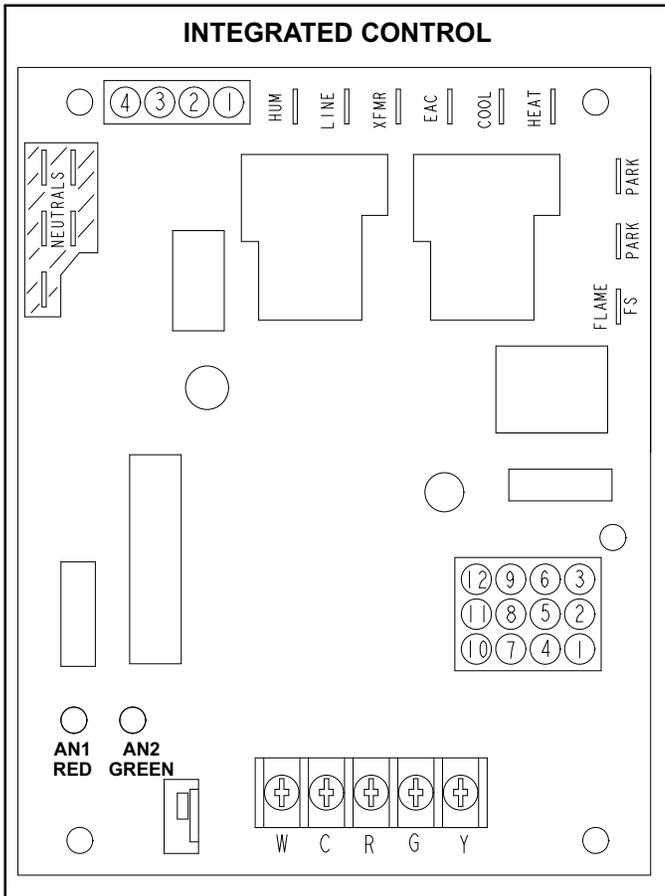
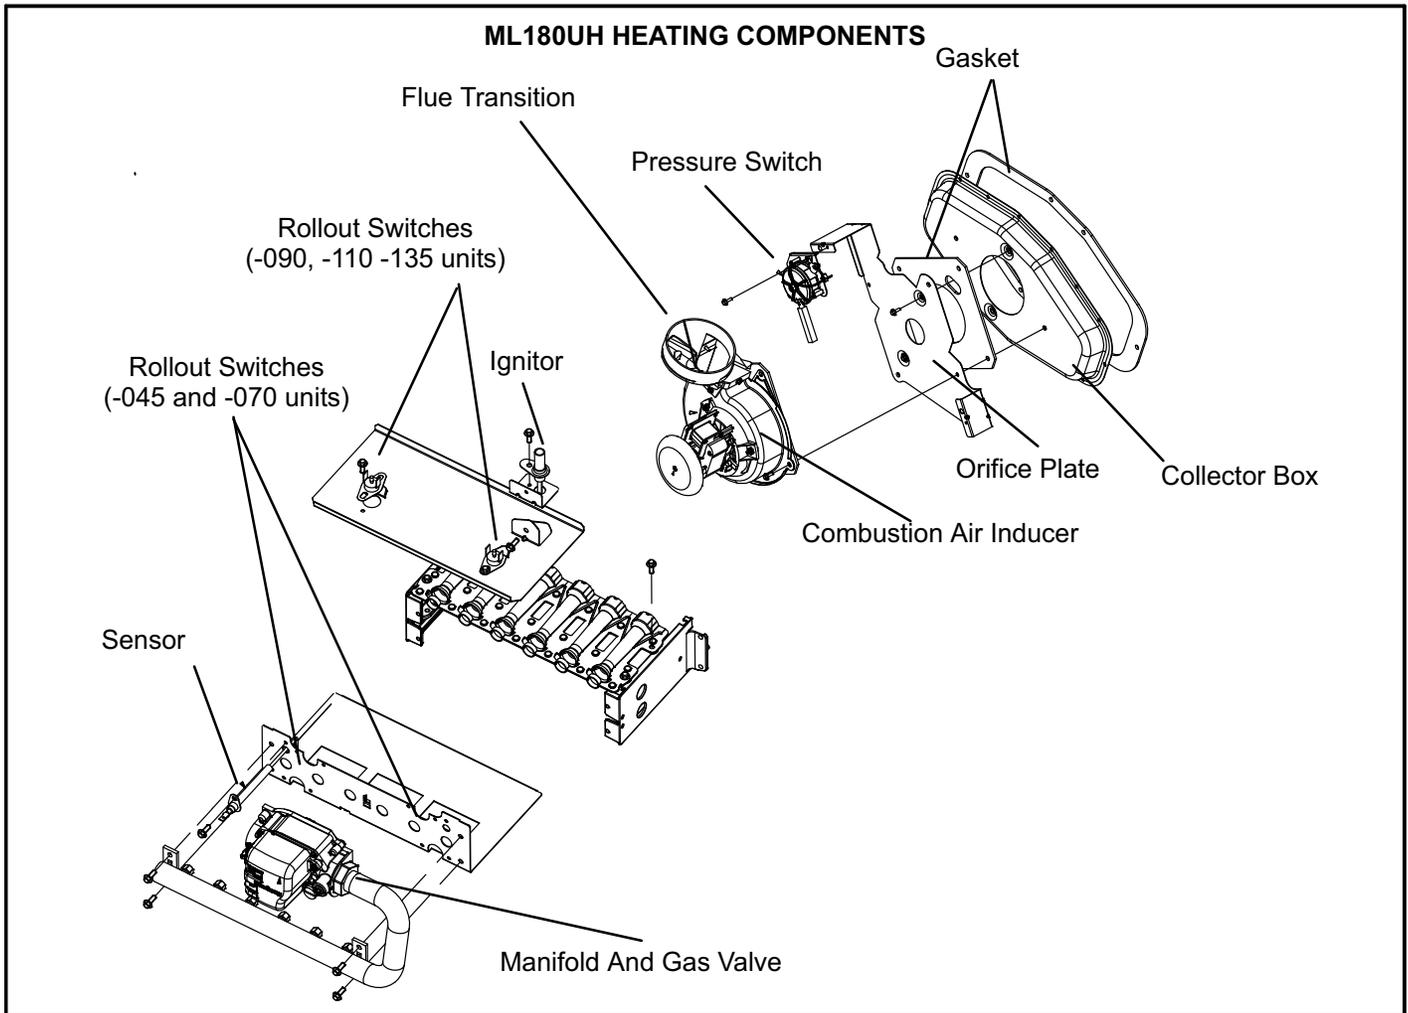

FIGURE 3
FIGURE 5
The hot surface ignition control system consisting of an integrated control (figure 3 with control terminal designations in tables 1, 2 and 3), sensor and ignitor (figure 5). The integrated control and ignitor work in combination to ensure furnace ignition and ignitor durability. The integrated control, controls all major furnace operations. The integrated control also features two LED lights (AN1 red and AN2 green) for troubleshooting and two accessory terminals rated at (1) one amp. The integrated control also features a (3) amp fuse for overcurrent protection. See table 4 for troubleshooting diagnostic codes. The nitride ignitor is made from a non-porous, high strength proprietary ceramic material that provides long life and trouble free maintenance. The integrated control continuously monitors line voltage and maintains the ignitor power at a consistent level to provide proper lighting and maximum ignitor life.
4. Flame Sensor (Figure 5)
5. Flame Rollout Switches (Figure 5)
7. Ignitor (Figure 5)
8. Gas Valve (Figure 5)